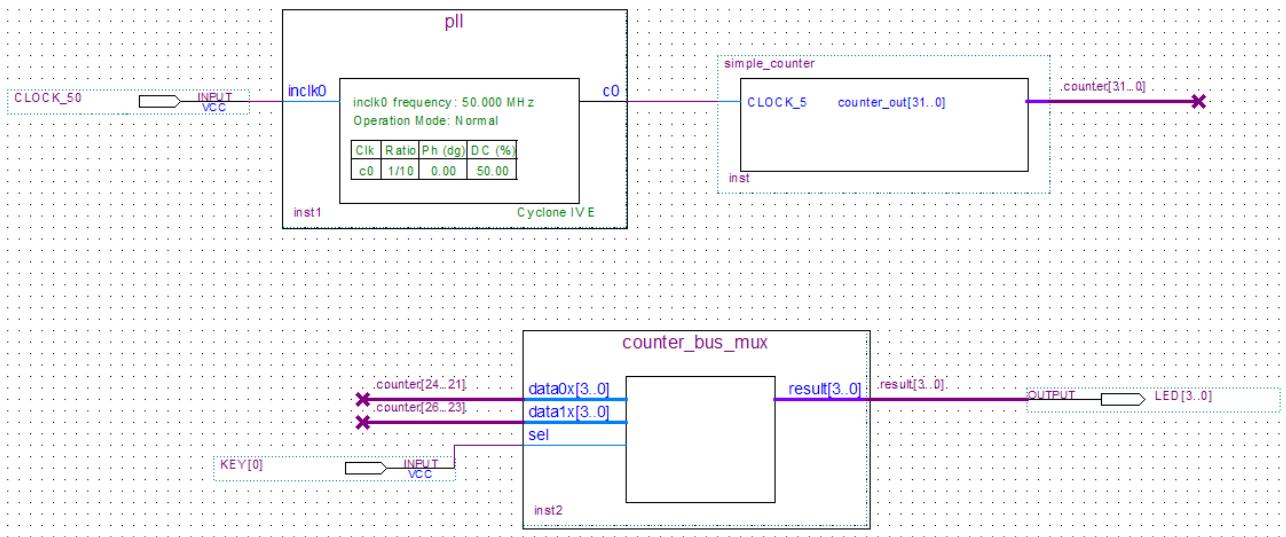

Figure 6-40 Adding the KEY [0] Input Pin
24. Rename the input pin as **KEY [0]** (see **Figure 6-40**).